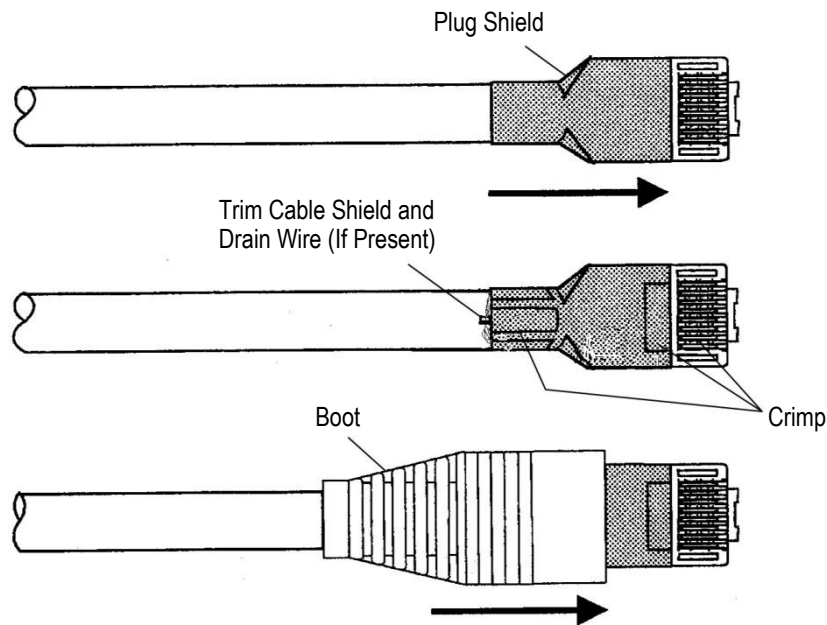

Figure 9
1. Slide the plug shield over the plug subassembly until it seats against the front edge of the recessed area around the outside of the plug housing. See Figure 9.
4. If the cable is shielded, trim away any cable shield and drain wire left extending beyond the end of the plug shield. See Figure 9.
5. Slide the boot over the crimped plug and shield. See Figure 9.